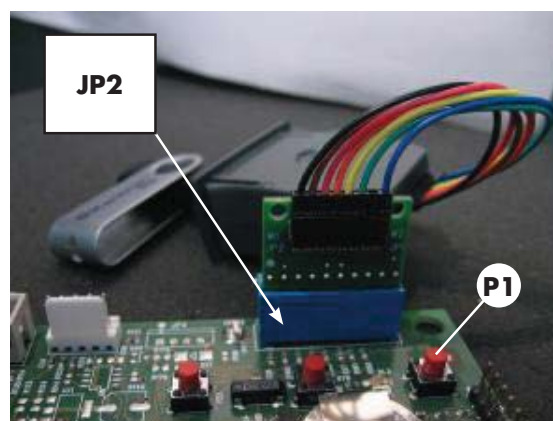

Fig. 73
- Insert the interface circuit into the blue connector of the CPU board (JP2) (Fig. 73);
- Press and hold the **P1** button (Fig. 71 - Fig. 73) on the CPU;